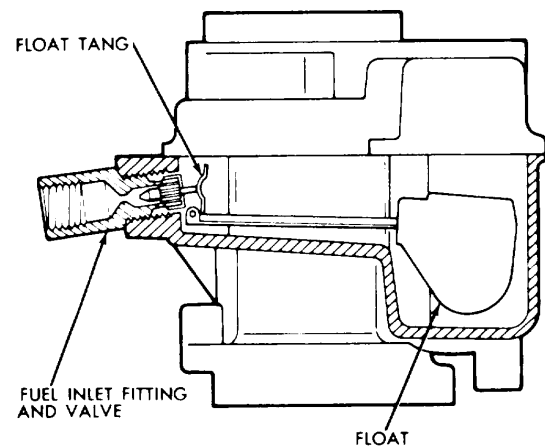

FIG. 4. Fuel Inlet System, Model 1940
**FUEL INLET SYSTEM (FIG. 4)**